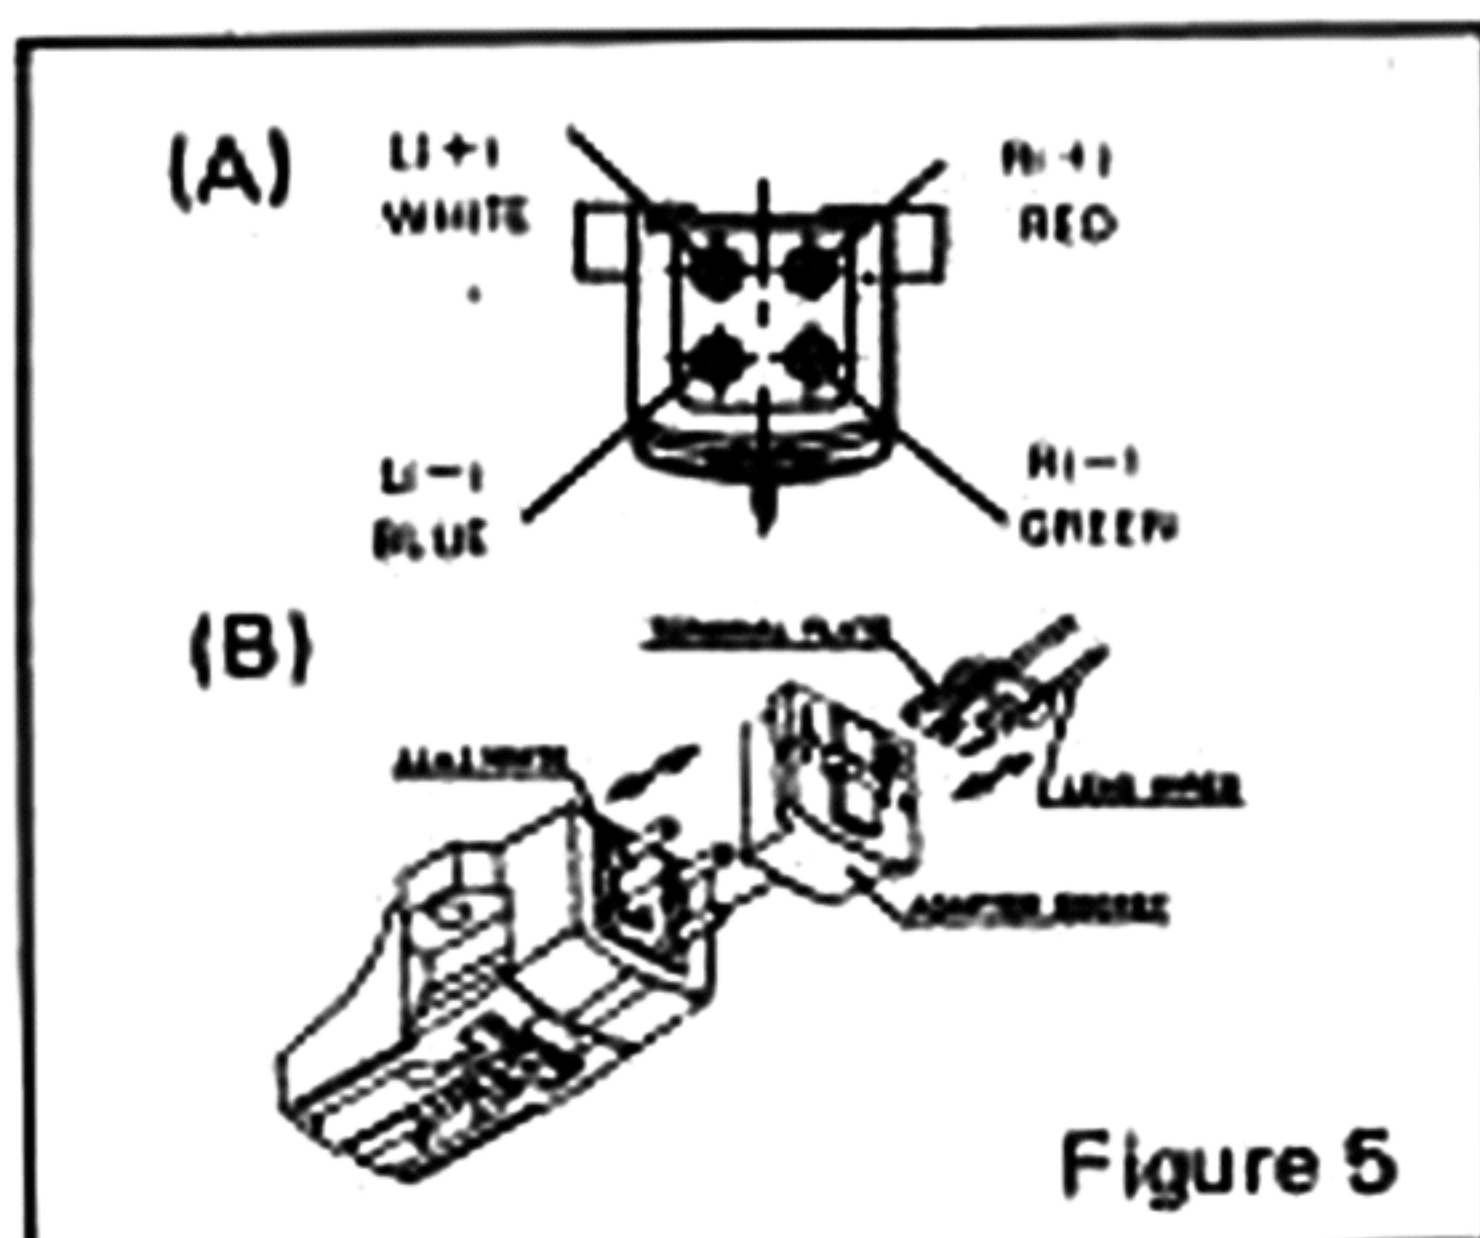

Figure 5
- Make connection of lead wires as shown in figure 5-(A).
- If this unit is used with panasonic model #300, connect the read wires by using the included adaptor socket as shown in figure 5-(B).